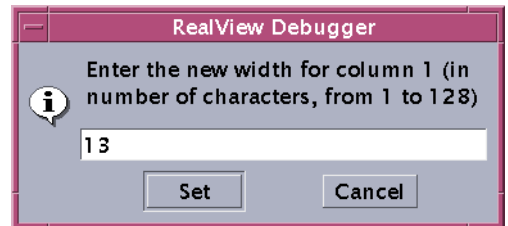

Figure B-4 Column resizing prompt box
8. Select the option **Set Width Of Column 1** to display the prompt box where you can specify the size you want, shown in Figure B-4.